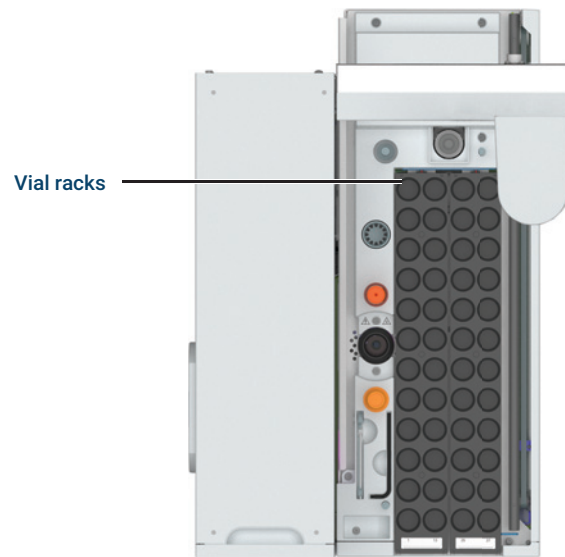

Figure 12. Tray vial positions (48-vial tray shown, 120-vial tray is similar)
- 2 Place the capped sample vials into the tray as desired. See **Figure 12**.